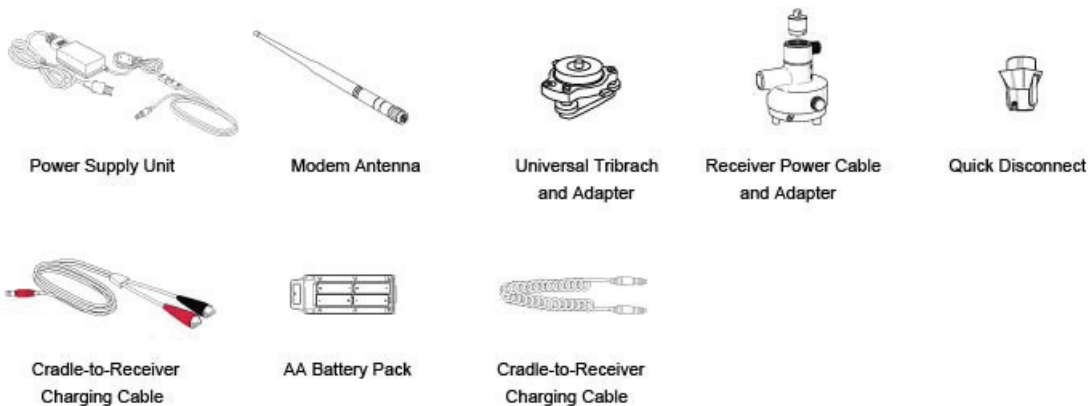

Figure 3: Receiver Accessories
- Receiver accessories are illustrated in Figure 3.
Topcon offers a wide variety of accessories (see Figure 3) specially designed to improve system flexibility and job site efficiency. For more details on the optional accessories available for GR-5, contact your Topcon dealer.